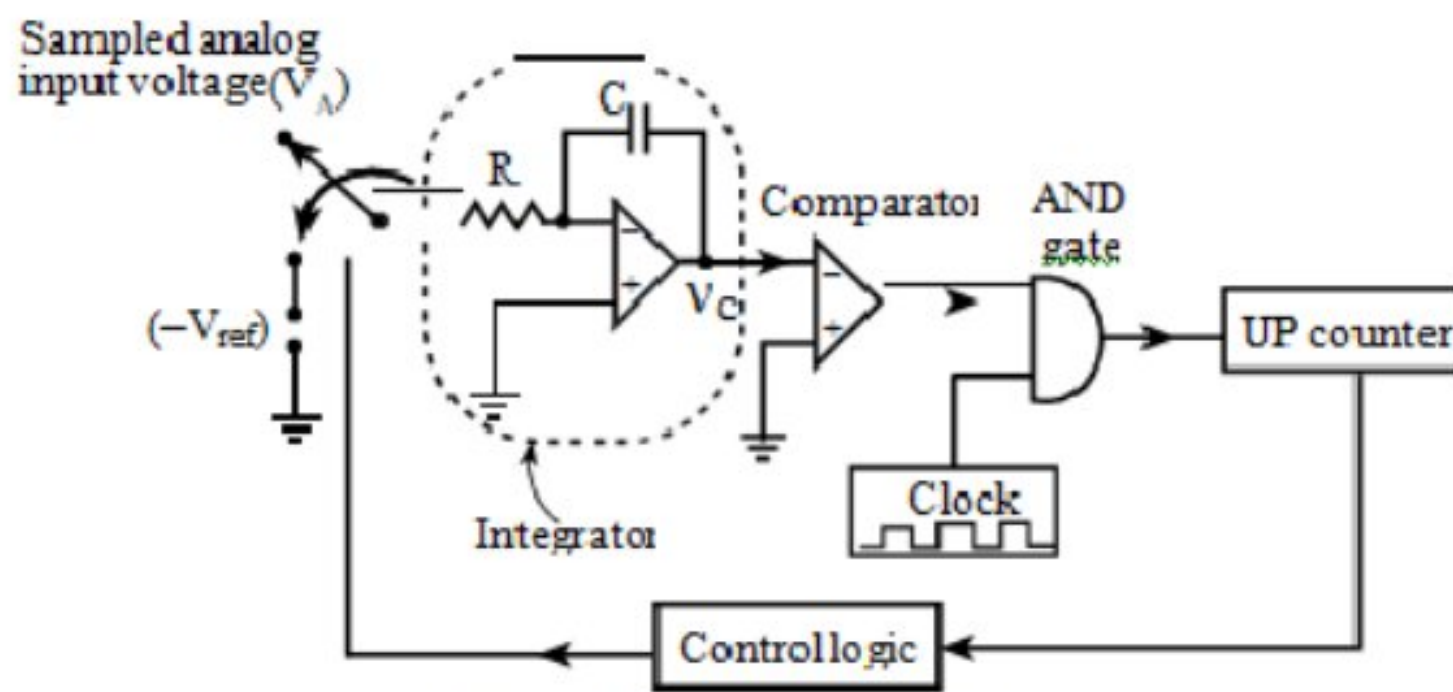

Figure 5.8 Dual ramp ADC
- Figure 5.8 shows the different components of dual ramp ADC.